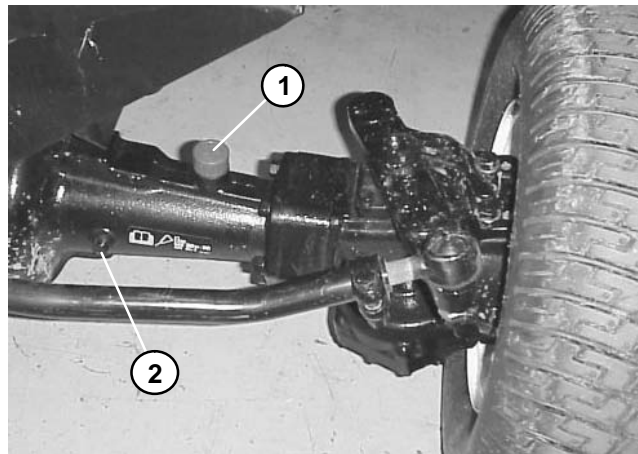

Figure 5
5. Remove axle support check plug and fill plug. Add enough lubricant to bring the level up to the bottom of the center check plug hole (Fig. 5).